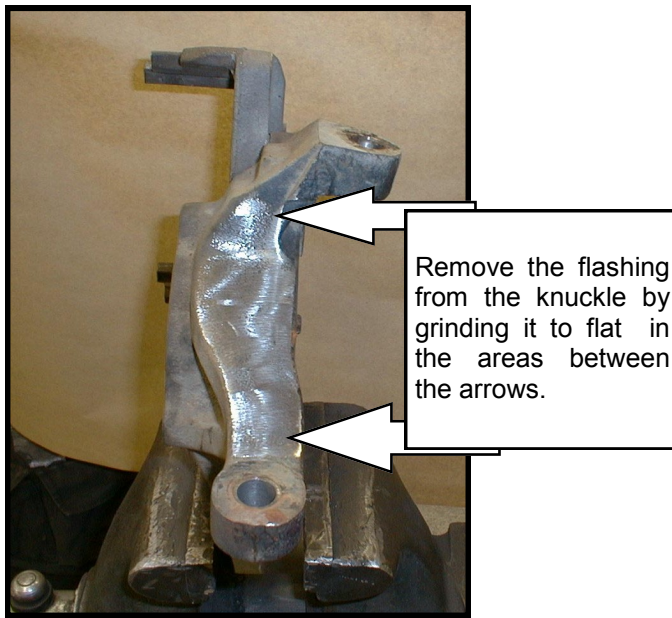

**Figure 1**
**STEP 2:** The pitman arm has a tapered hole that the drag link attached to. This hole must be drilled to 5/8". M.O.R.E.™ has found it best to remove it from the steering box (this requires a pitman arm puller). Place it in a drill press or milling machine for this step. See figure 1. This can be done with a hand power drill with the pitman arm on the vehicle, if you can drill the hole very accurately. You be the judge.